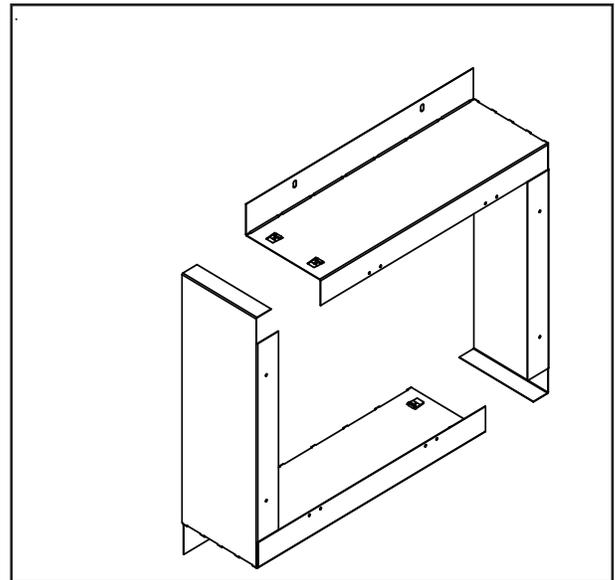

Figure 3.17 Bend BEK Sections
11. Assemble the PVLP-BEK kit. Bend the two sections of the PVLP-BEK kit as shown in Figure 3.17.